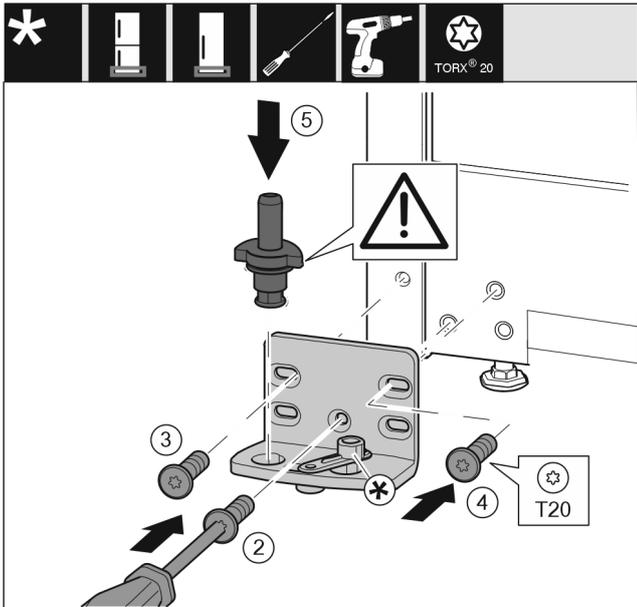

Fig. 14
- Place the bearing bracket on the other side and screw it on with a T20 screwdriver. Start with screw 2 at the bottom in the middle. Fig. 14 (2)
- Screw in screws 3 and 4 tightly. Fig. 14 (3,4)
- Insert the bearing pin completely. Make sure that the latching lug is pointing to the rear. Fig. 14 (5)